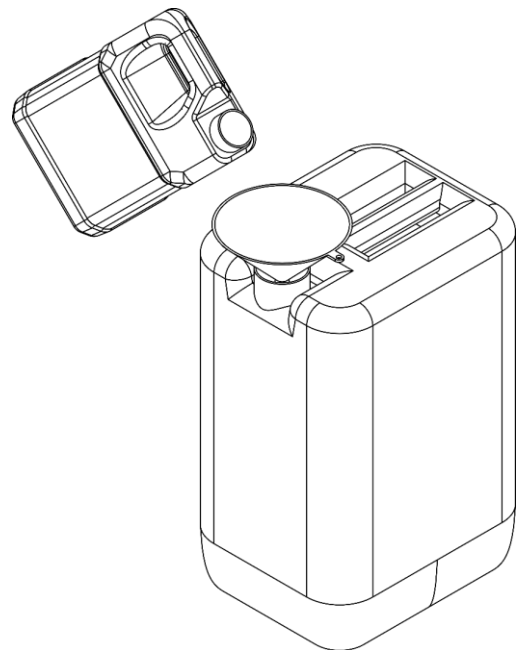

Fig. 17
- 05) Use a funnel to pour the snow fluid from the tank into original snow fluid jerry can, as shown in Fig. 17.